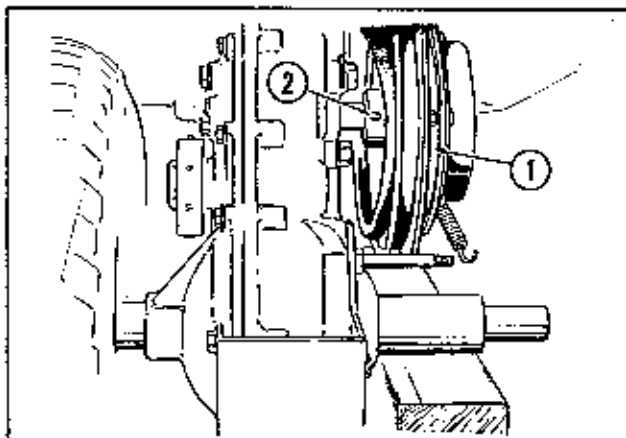
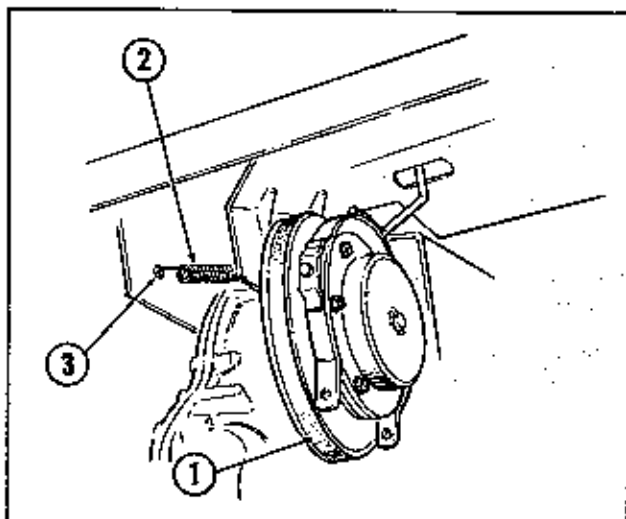

Figure 2
Figure 3
3. Place the two-speed pulley assembly #1, Fig. 2, on the transmission pulley shaft, and lock in place with the set-screw #2, Fig. 2, in the pulley hub. Be sure to maintain a clearance of at least $1/8$ " between the pulley hub and the transmission. Notice that the hub of the pulley faces toward the transmission. Place the V-belt over the two-speed pulley #1, Fig. 3, and replace the idler tension spring #2, Fig. 3, in the hole #3, Fig. 3 as shown to engage the idler pulley with the transmission drive belt.